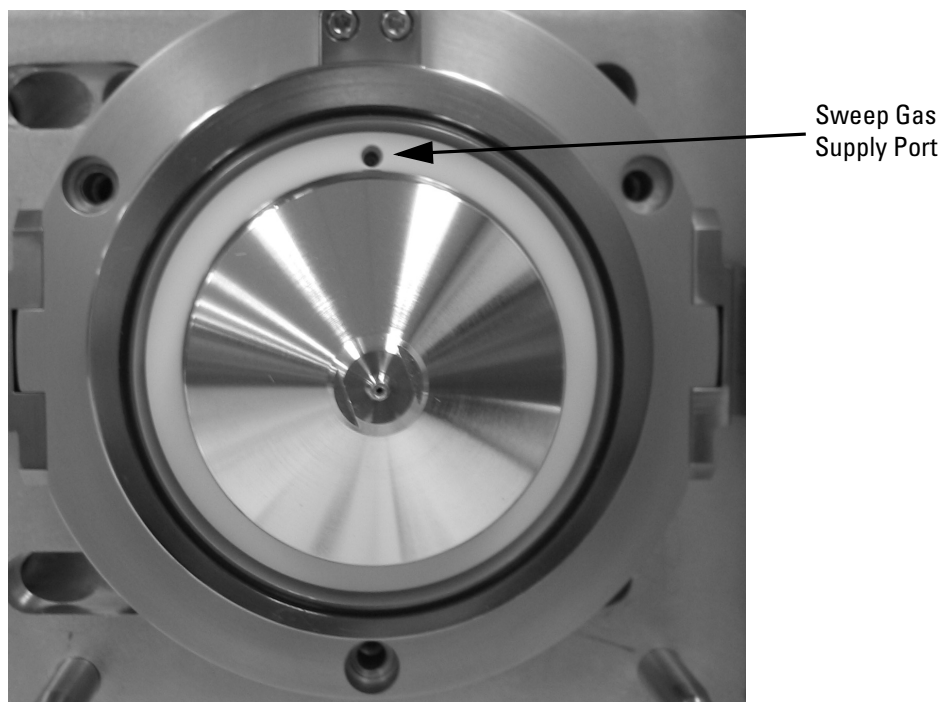
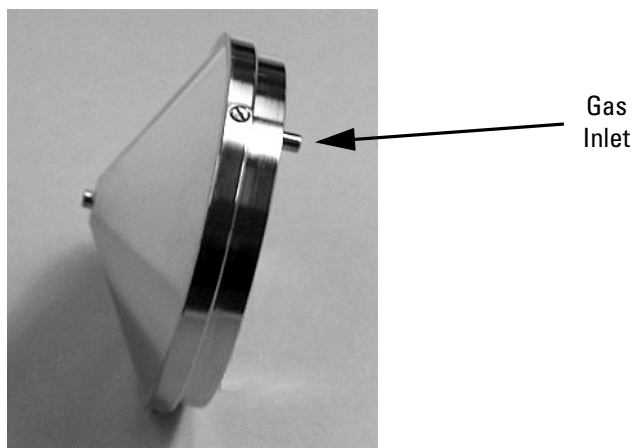

Figure 2-6. Capillary heater cage, showing the sweep gas supply port in the API cone seal
Figure 2-7. Ion sweep cone, showing the gas inlet
2. Note the location of the sweep gas supply port in the API cone seal. The gas inlet on the ion sweep cone is placed in this port. See Figure 2-6 and Figure 2-7.